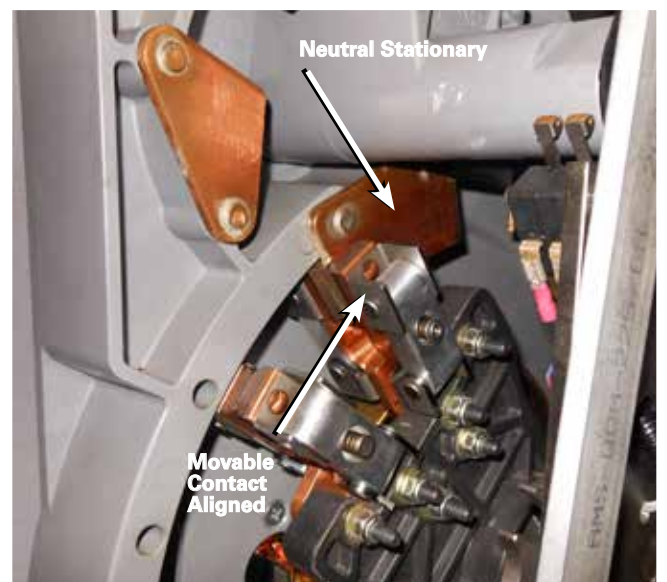

Figure 151. Main movable contact aligned with neutral stationary for installation of the actuator finger.
23. Rotate the movable contact insulator arm so the only one of the movable contacts is engaging the neutral stationary contact as shown in Figure 151. This should line the arm up with the Geneva gear so that the actuator finger pocket in the arm is across from the bolt holes used to attach the finger to the Geneva gear.